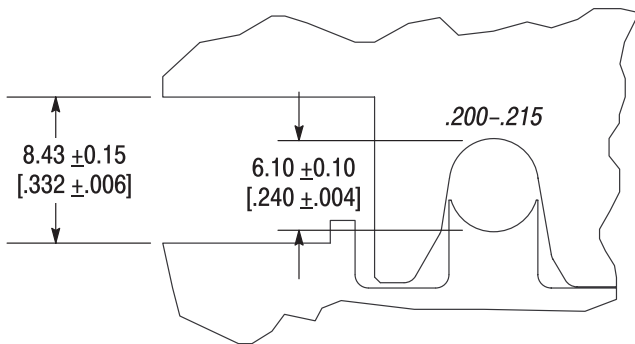

Figure 5
The crimp nest may be removed and rotated 180° to accommodate two sizes of insulation. Dimensions for these wire insulation sizes are shown in Figure 5.
- Added new Figure 5 and renumbered